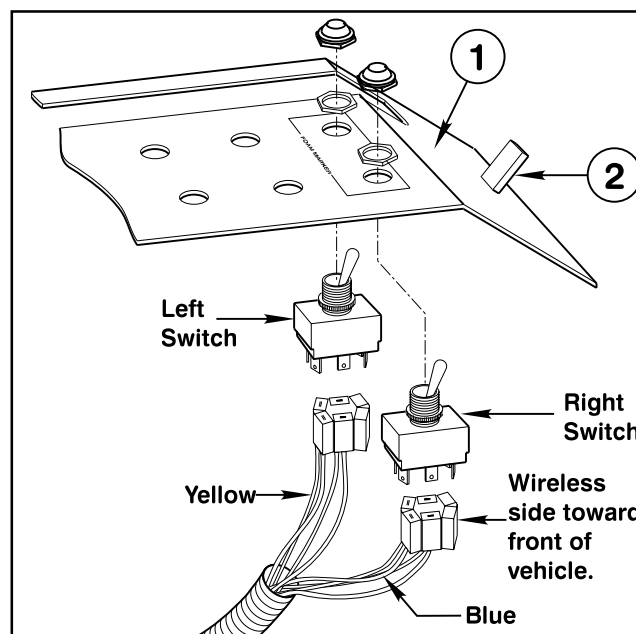

Fig. 3
4. Release the latch and remove the Switch Panel Assembly from the Center Console Assembly. (Fig. 3)
5. Remove Foam Marker Switch hole plugs. Install Foam Marker Boom Switches into Switch Panel Assembly. Install the protective rubber boots over the switches. NOTE: When installing switches, index switches as shown in Fig. 3.
8. Plug the harness connectors to the Foam Marker Switches as shown in Fig. 3. Connector with blue wire plugs onto right boom switch, and connector with yellow wire plugs onto left boom switch.